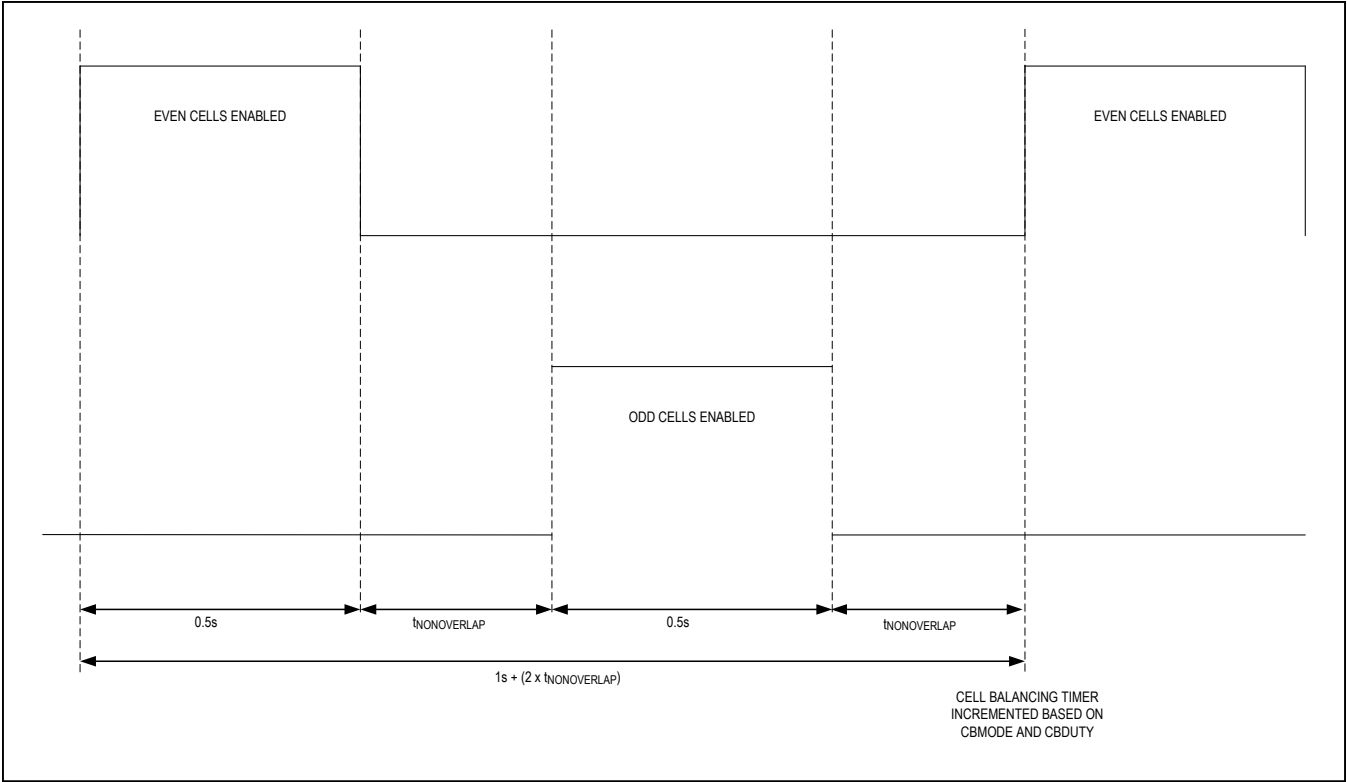
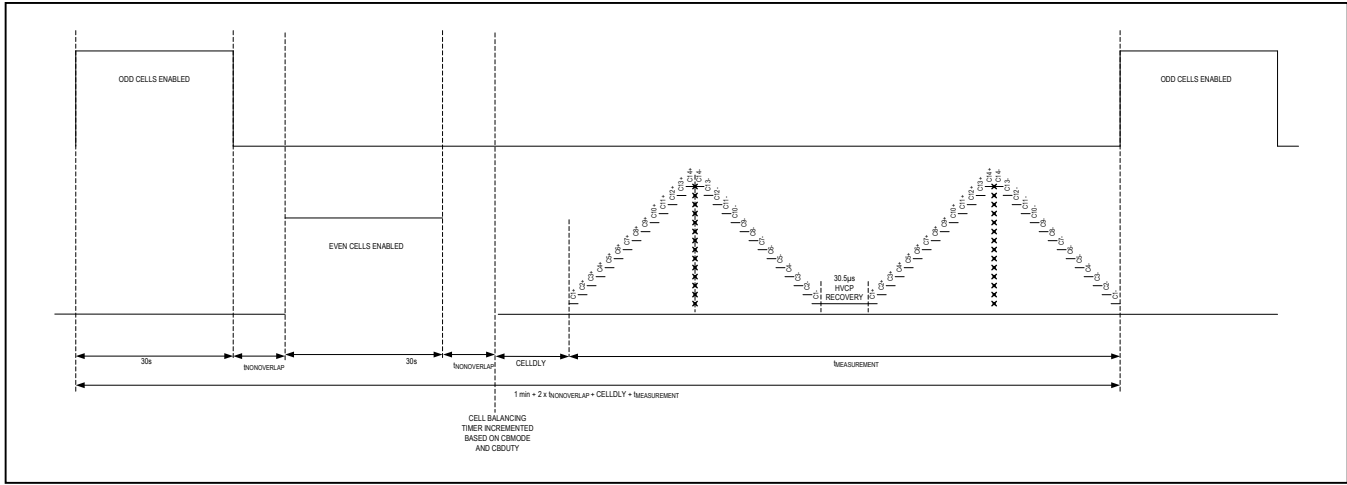

Figure 42. Auto Even/Odd Cell Balancing without UV Detection
Figure 43. Auto Even/Odd Cell Balancing with UV Detection, ADC with OVSAMPL
**Note:** Figure 42 and Figure 43 are not drawn to exact timescale; some sections have been exaggerated for visibility.